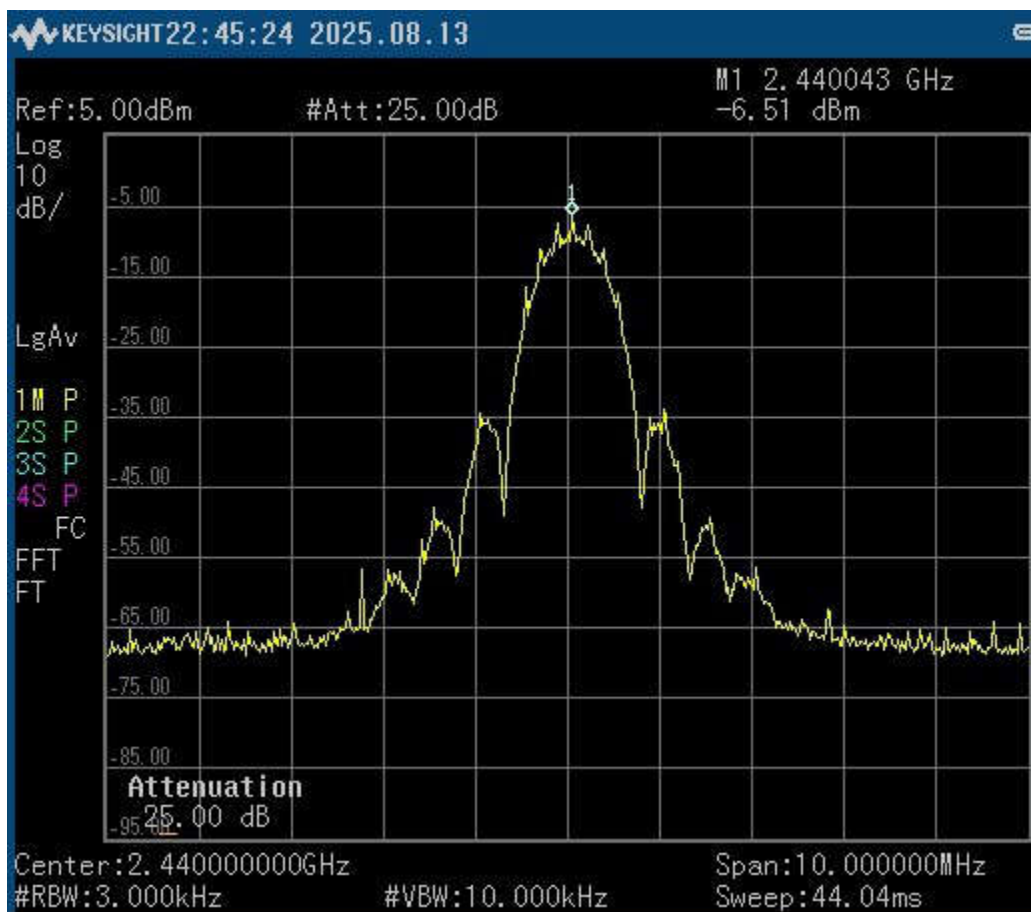

Figure 7-7. Spectrum Analyzer Output from Power Spectral Density Mask Test
- Step 4: Verify that the PSD mask conforms to the given standard on the spectrum analyzer. (Reference Figure 7-7 for an example of the results on the spectrum analyzer)